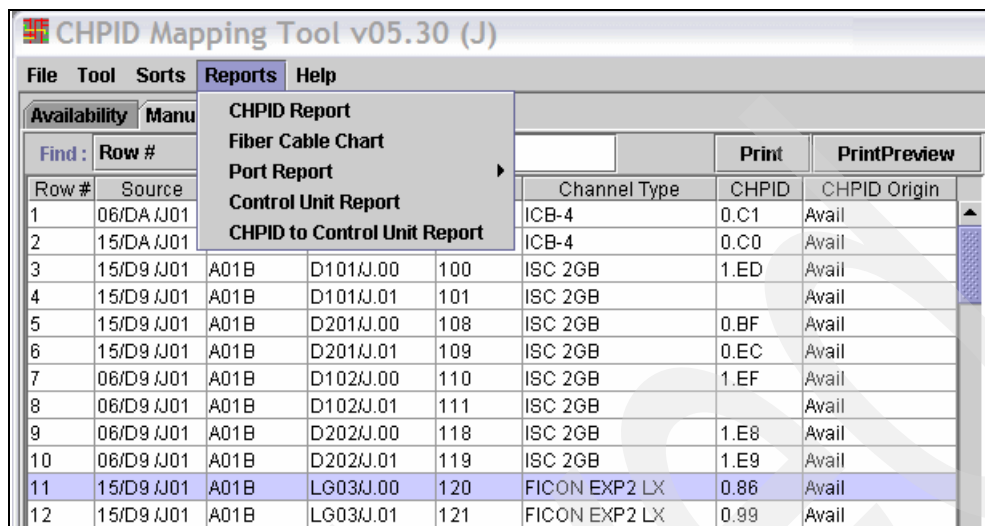

Figure 3-64 CMT - Select CHPID Report
1. Click **Reports** → **CHPID Report** (Figure 3-64).